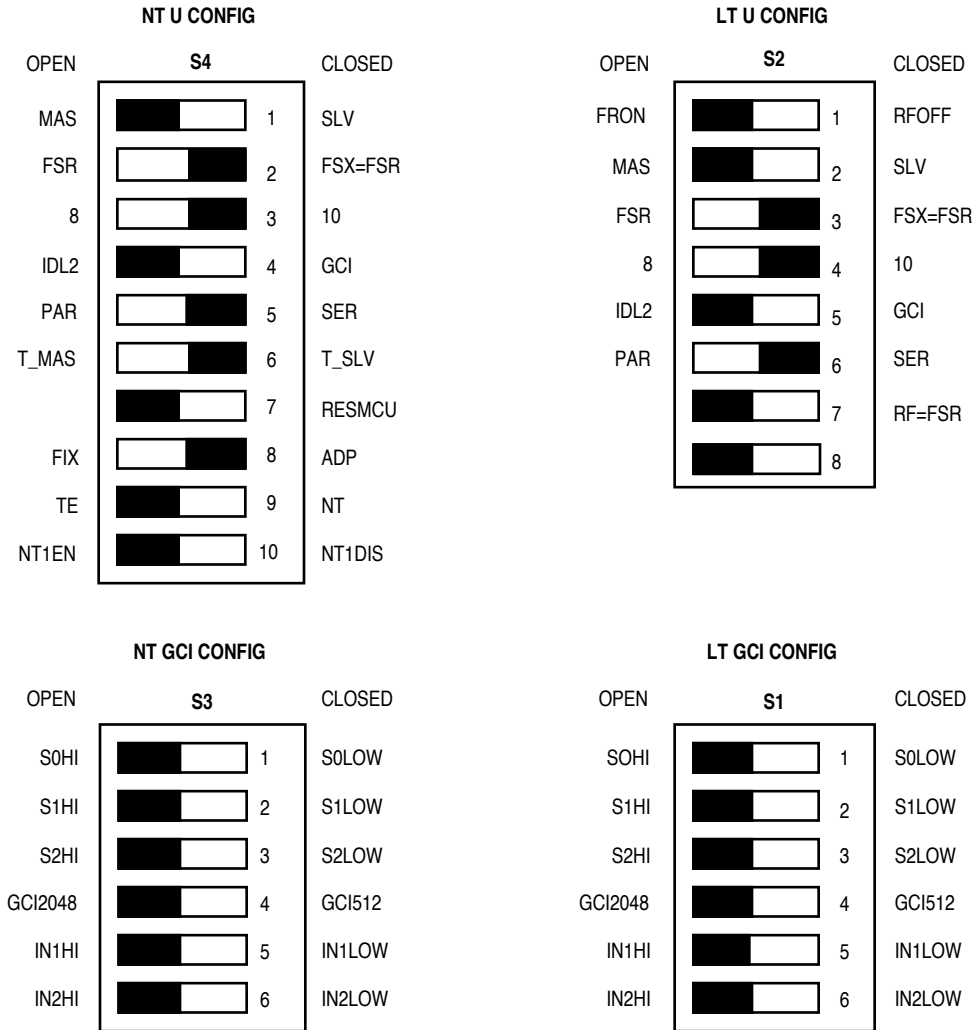

Figure 1-3. MC145572EVK DIP Switch Configuration
The DIP switches arrive preset from the factory (see Figure 1-3). Refer also to DIP Switch Functions in Section 2.8, for an explanation of the function of each switch. Do not change the position of any DIP switch until you are completely familiar with its function.
2. Verify that the DIP switches are set as in Figure 1-3 (valid for above-mentioned BERT boxes).